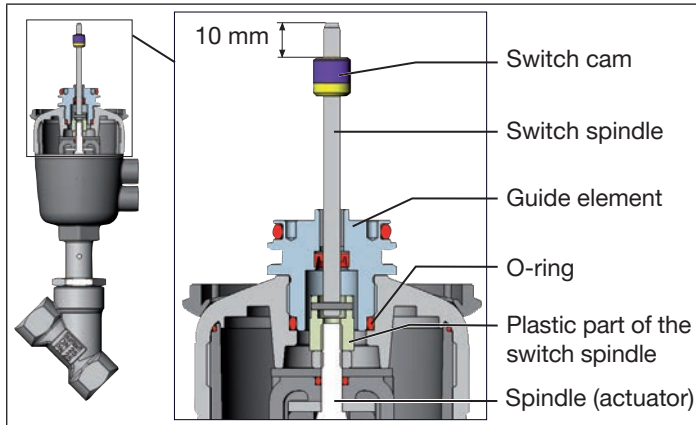

Fig. 11: Installation of the switch spindle (2), series 20xx
- Press the O-ring downwards into the cover of the actuator (see “Fig. 11”).
- Position the switch cam on the switch spindle so that the distance between the switch cam and top of the spindle is 10 mm (see “Fig. 11”).